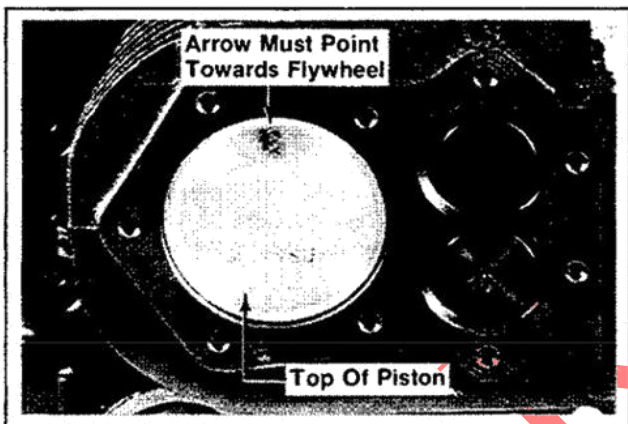

Figure 11-30. Piston Installation Direction Identifier.
3. Orient the "Fly" mark on pistons so it points towards flywheel (intake port) side of cylinder barrels. Refer to Figure 11-30.